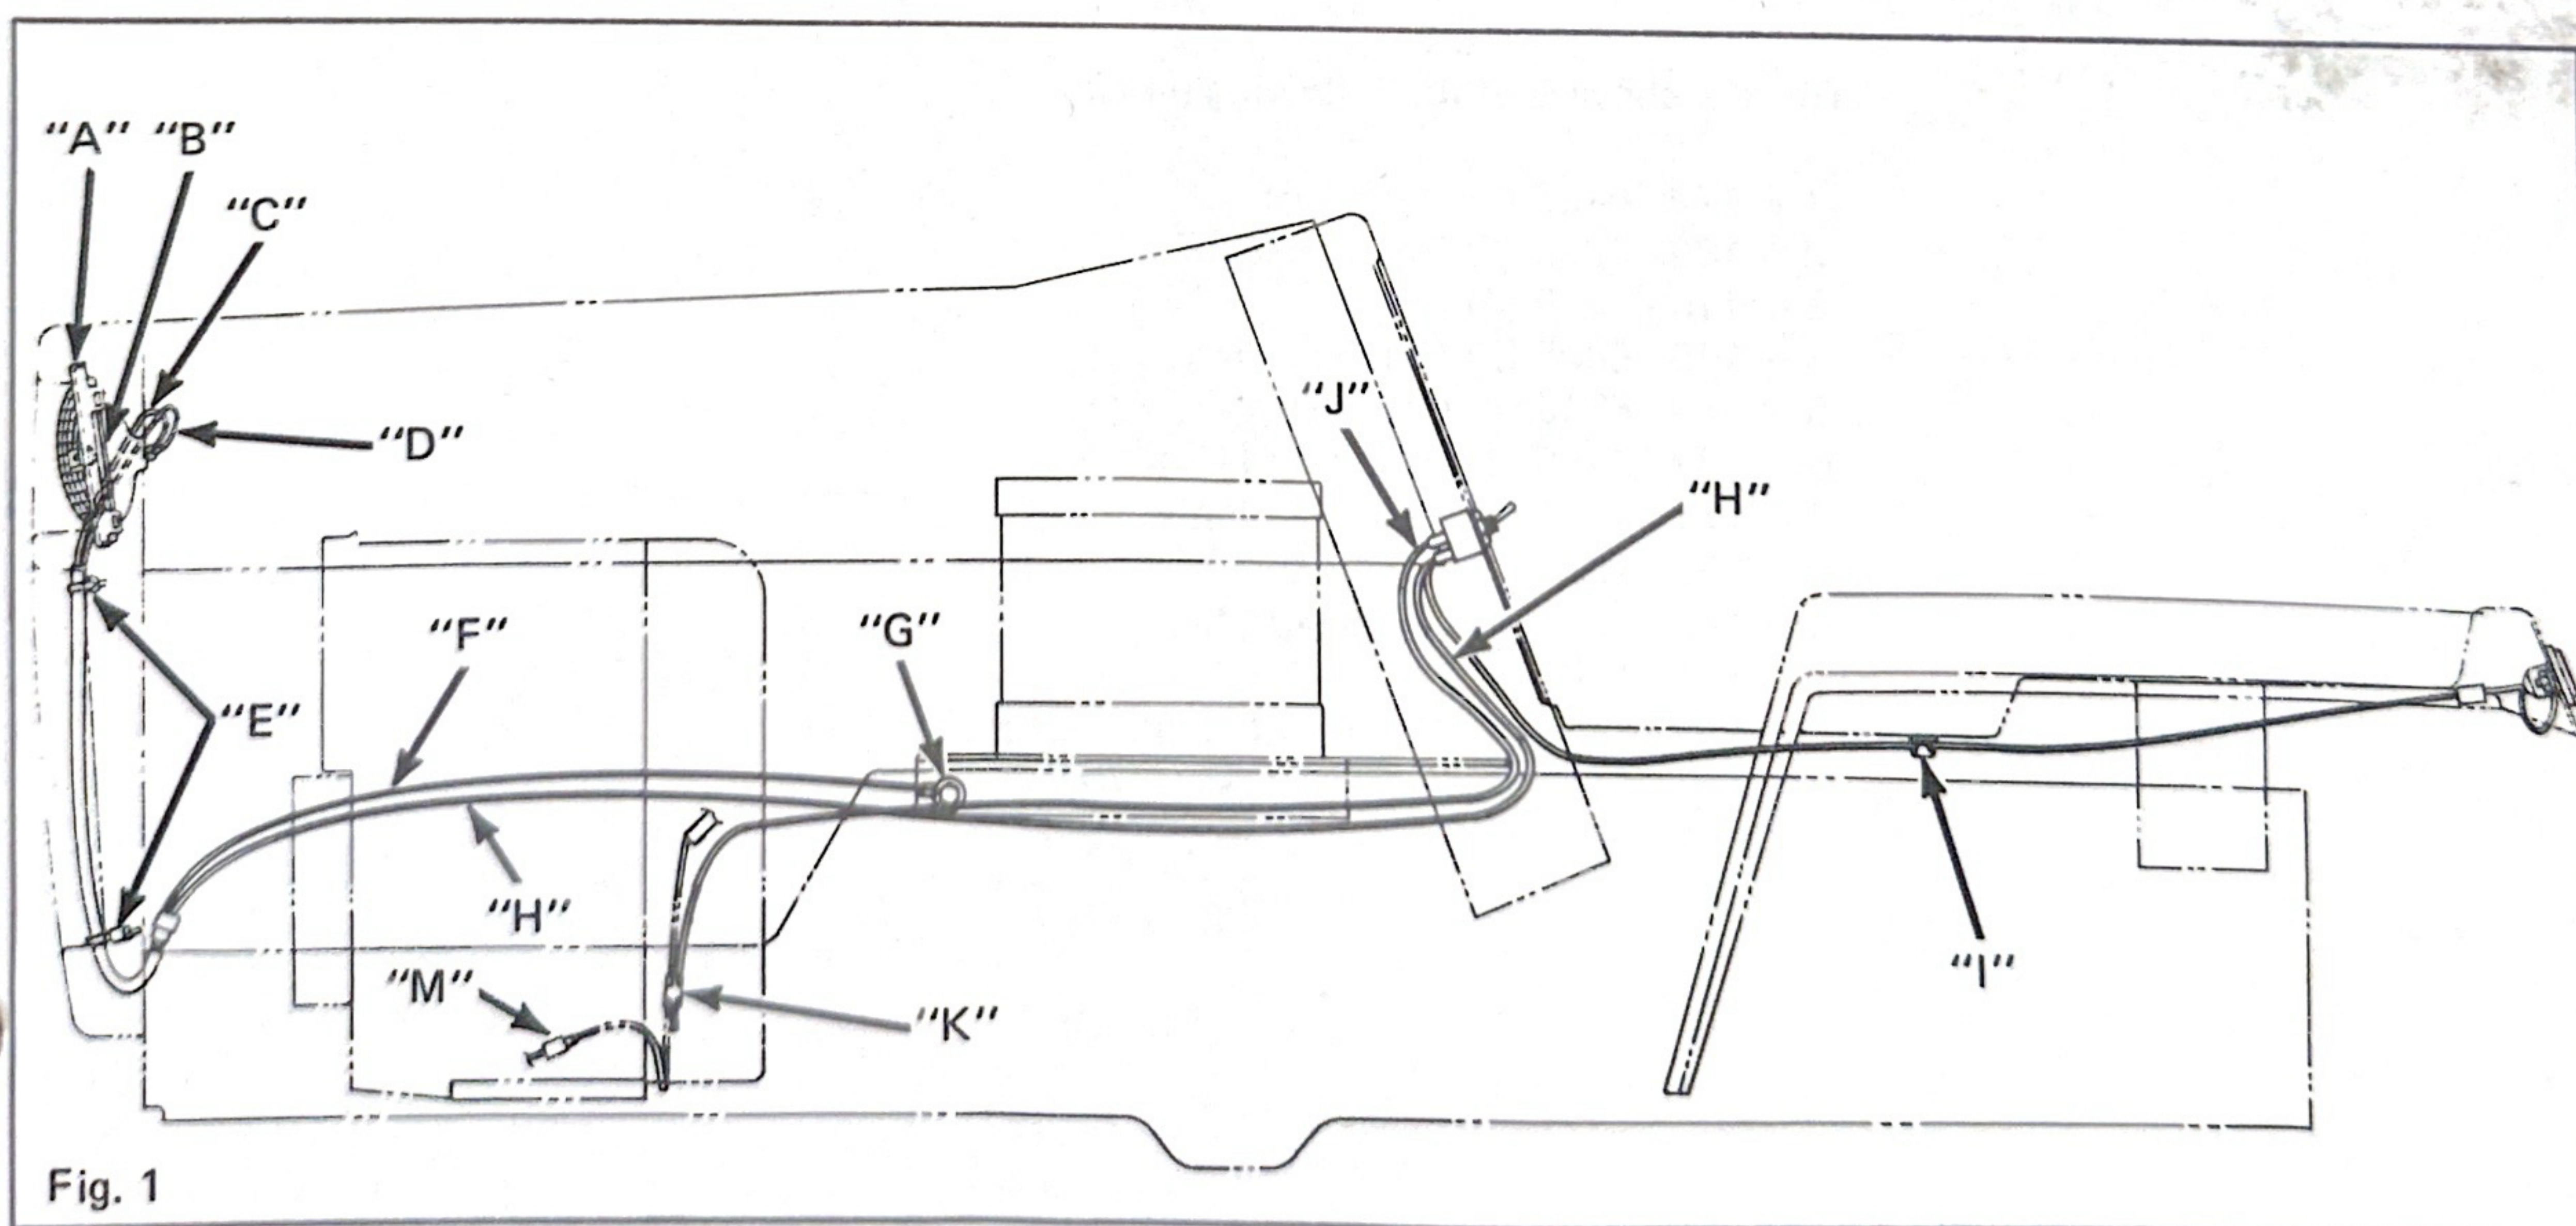
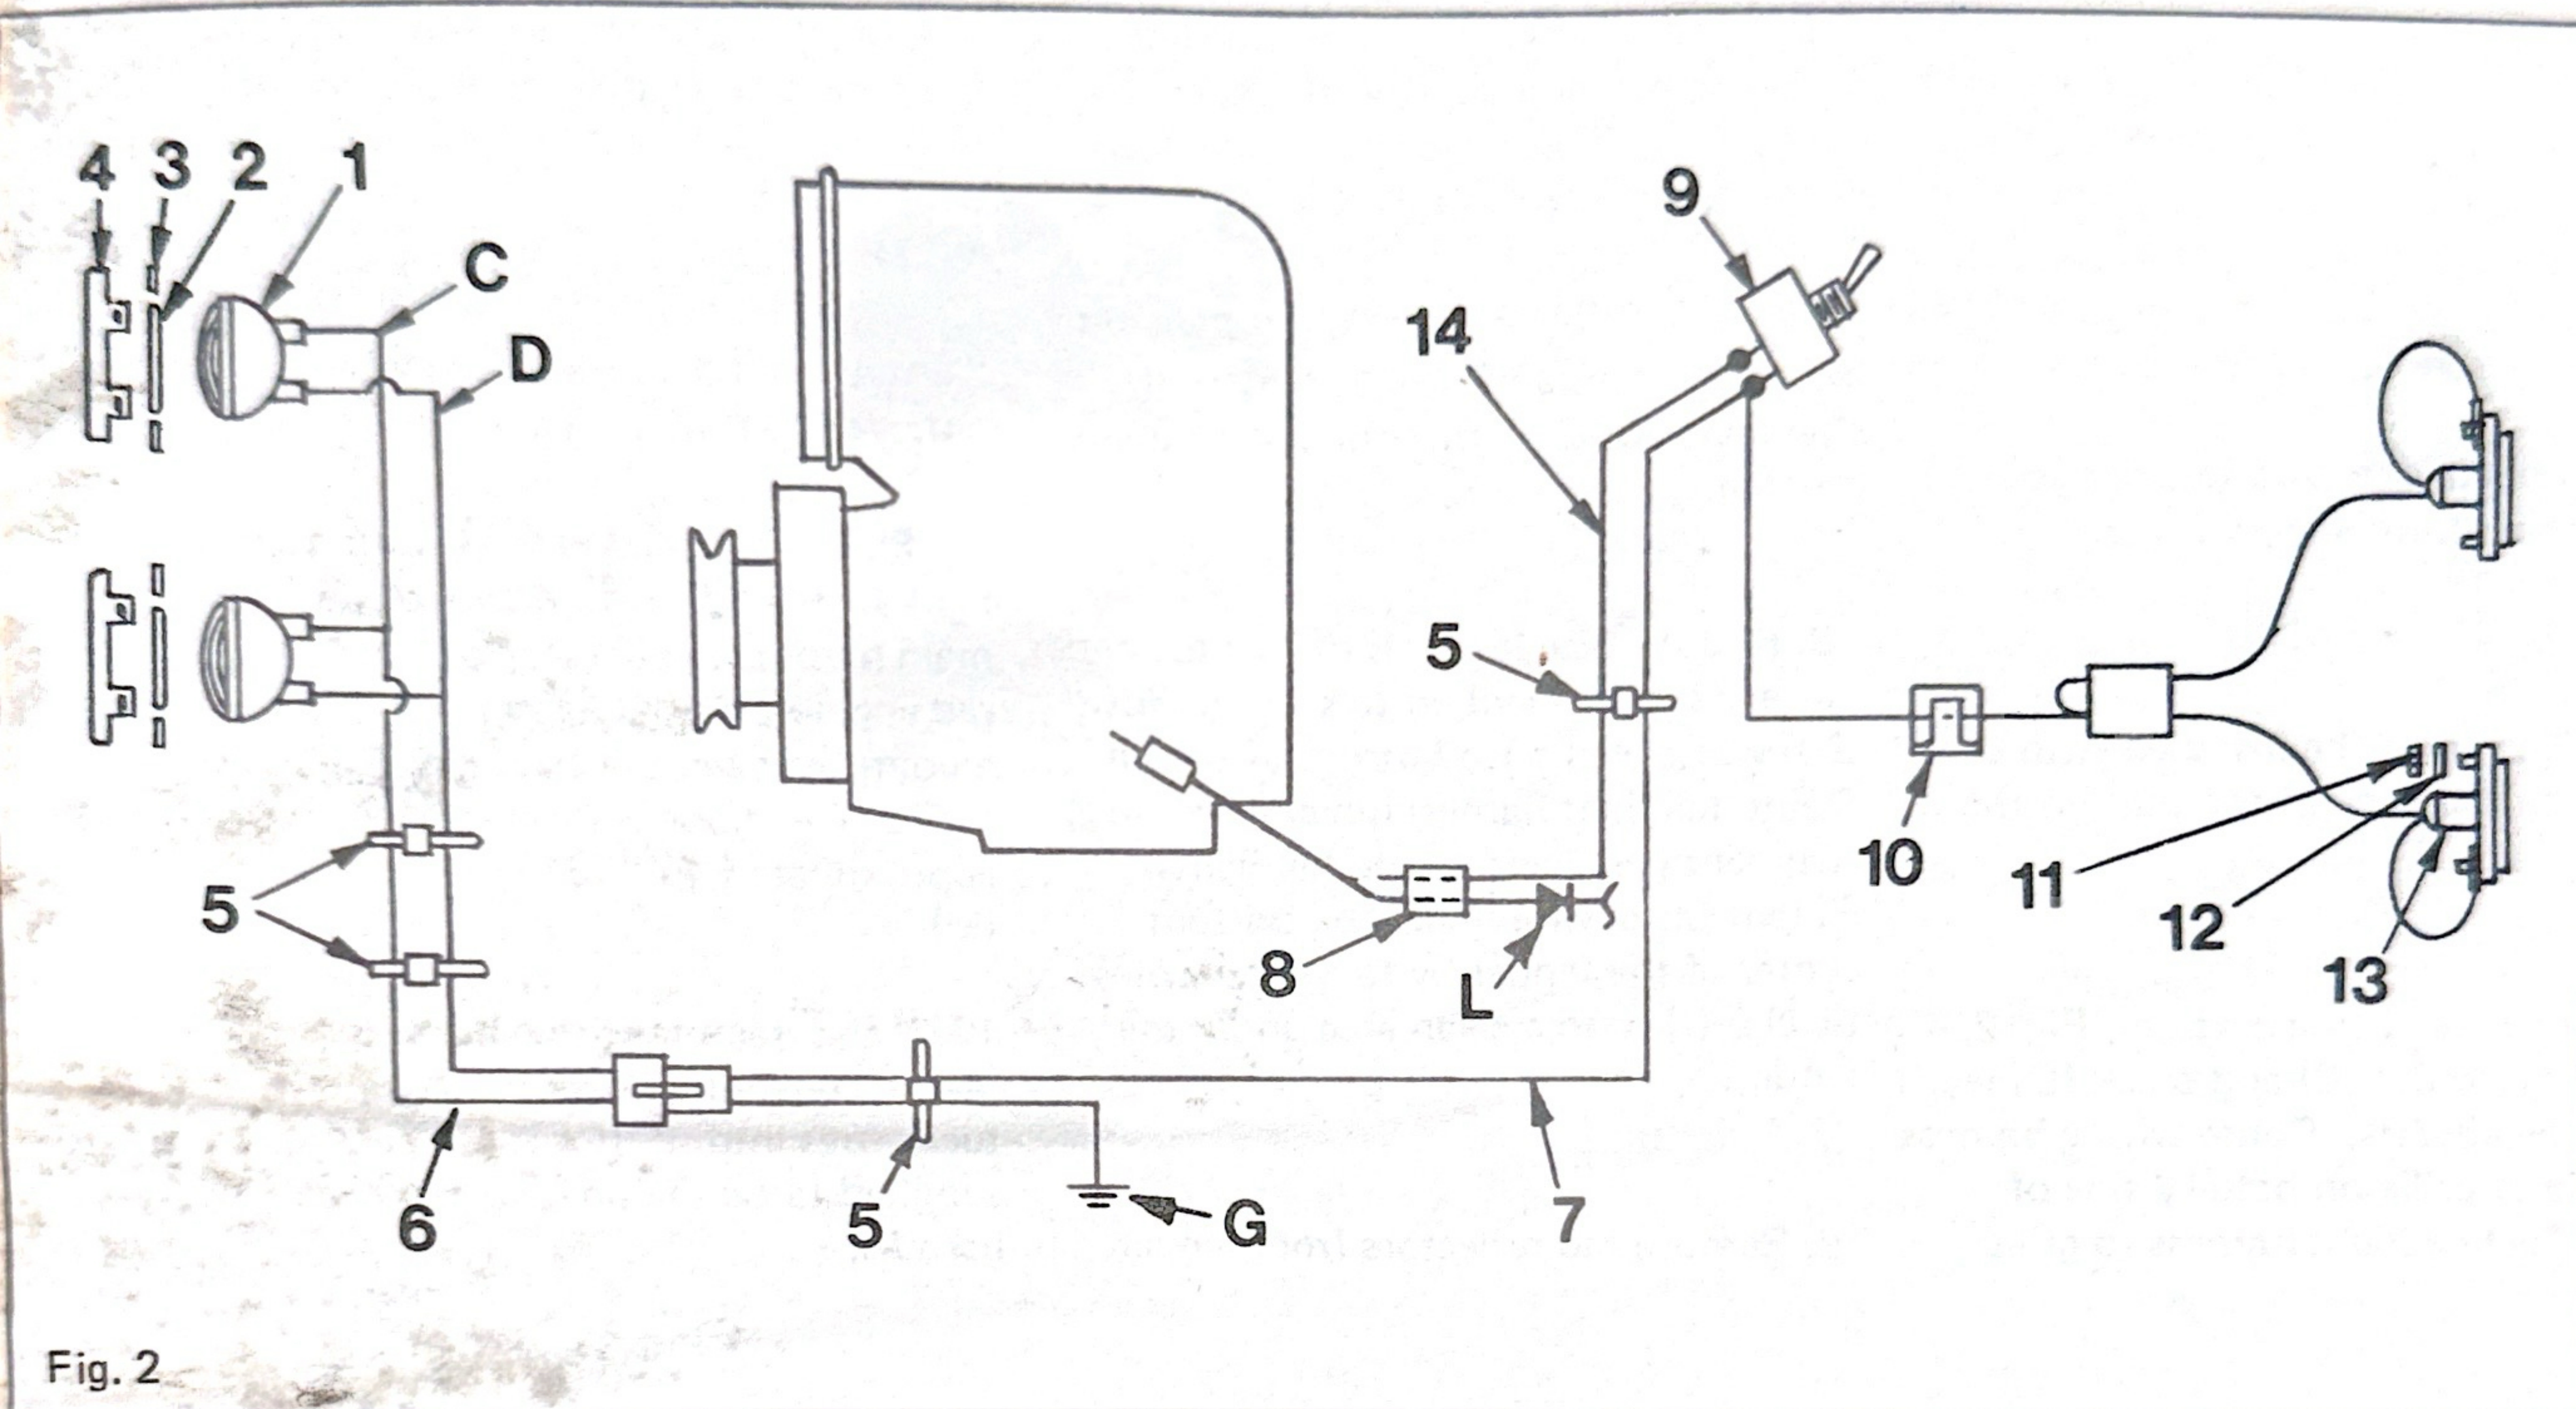

Fig. 1
Fig. 2
5. Refer to the wiring diagram, Fig. 2, and plug the white (C) and black (D) leads onto the headlights. Route wiring harness down side of grille on battery side of tractor. Tie headlight harness to grille
edge with two cable ties (E) as shown in Fig. 1.
6. Plug in harness (F) to headlight harness. Route along side of tractor with main engine harness. Bolt the black ground lead (G) to frame where battery is grounded.
8. Route white lead (H) of harness under battery support and up to switch. Position white lead onto bottom of switch. Route tail light harness down under instrument panel and to the tail lights. Retain white wire under the bottom center of the fender by fastening a plastic clip (I) onto a clean area under the fender.
11. Plug in red lead wire (J) onto top light switch tab. Route wire along with main harness to engine. Connect lead to red engine wire (K) as shown in Fig. 1, at a point between the engine and diode (L) Fig. 2. The diode is located in the harness approximately 24" (61 cm) from plug (M).